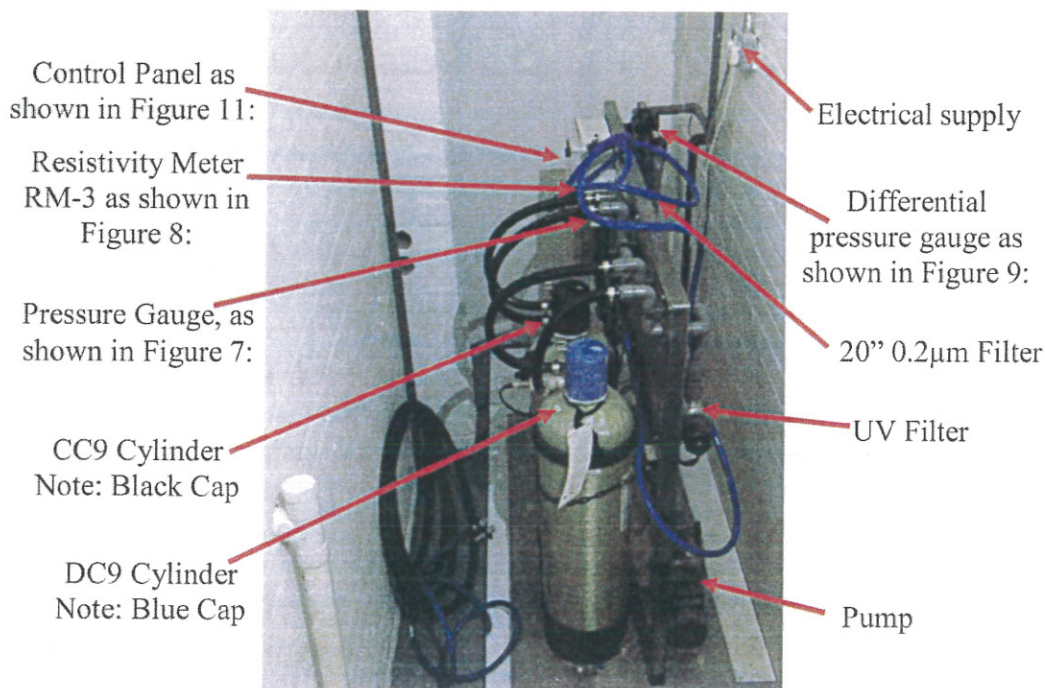

Figure 12: Location of filtration components on the filtration raft.
Figure 9: Pressure differential gauges for the 0.2µm filter, the location is shown in Figure 12: for 20" one fitted to filter raft and Figure 16: for the 10" one fitted outside the clean room.
6.8.3. **Isolate the Electrical Supply.** Switch off and un-plug the electrical supply from the filtration raft, as identified in Figure 12:
- 6.9.2. **Isolate the Electrical Supply.** If replacing the 20" 0.2µm Filter, switch off and un-plug the electrical supply from the filtration raft, as identified in Figure 12:
- 6.9.11. **Re-Instate the Electrical Supply.** If replacing the 20" 0.2µm Filter, replace the plug and switch on the electrical supply from the filtration raft, as identified in Figure 12: